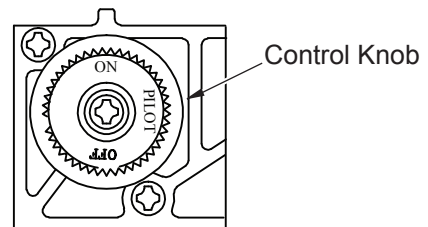

Figure 13 - Control Knob Location
4. Wait five (5) minutes to clear out any gas. Then smell for gas, including near the floor. If you smell gas, STOP! Follow "B" in the safety information, page 17. If you don't smell gas, go to the next step.
5. Press in and turn control knob counter clockwise  to the PILOT position. Press in control knob for five (5) seconds (see *Figure 13*).